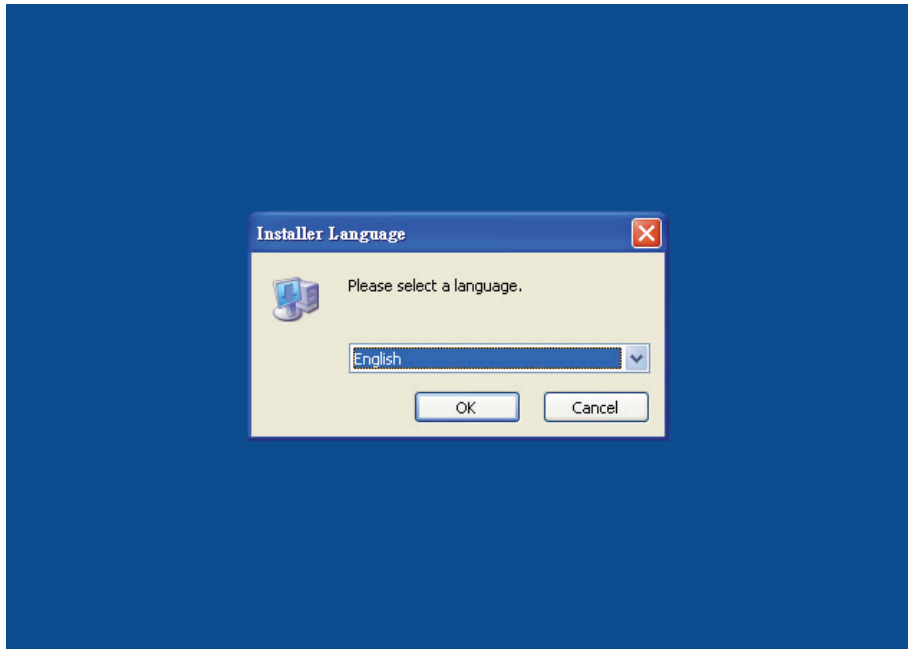

Fig. 2.1.2 Select Language
- Step 2: Execute **setup.exe** from Windows taskbar by clicking “**Start**” > “**Run**”. 3. After pressing **OK**, system will setup automatically and you will get the following dialog box to select the desired display language (Fig. 2.1.2).